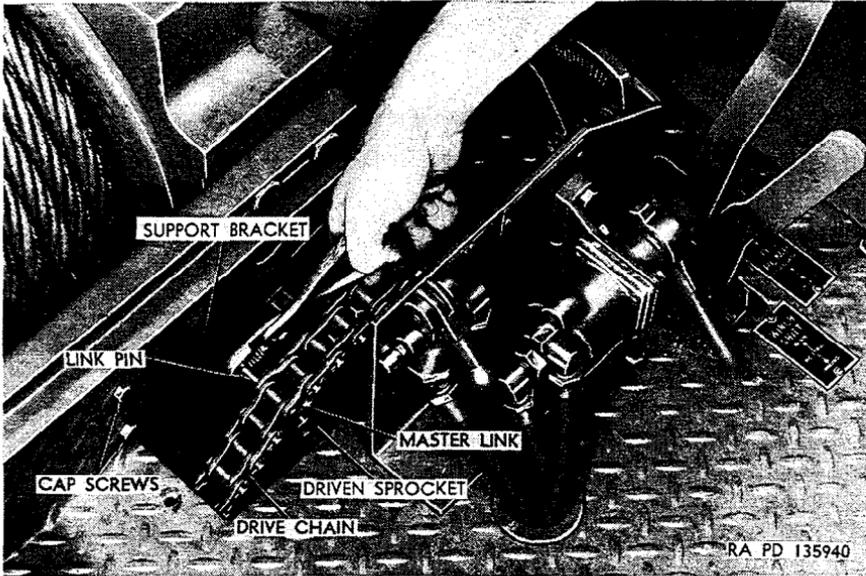

Figure 281. Separating rear winch drive chain M62.
- (2) Operate winch (par. 52c), turning drum in small increments, until master link (fig. 281) in chain is visible.
- (3) Remove cotter pin and link pin (fig. 281) from master link, and separate ends of chain. Remove chain from sprockets.
- (2) Place drive chain (fig. 276) around sprockets, pull ends of chain together, and install link pin (fig. 281). Install cotter pin in end of link pin.
- (3) Tighten nuts on bearing assembly mounting studs and bolts to 50 to 60 pound-feet torque. Check drive chain for proper tension ($\frac{1}{2}$ -inch deflection at midpoint between drive sprocket and driven sprocket). If necessary, remove bearing assembly and add or remove spacing shims until proper chain tension is obtained.